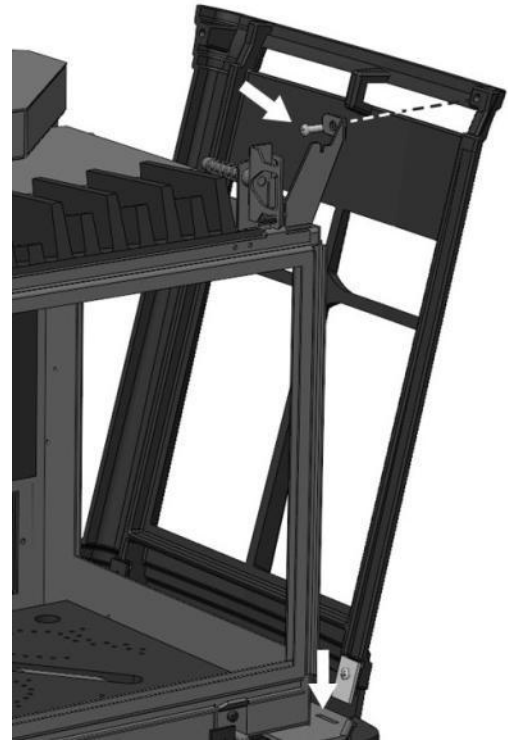

Figure 32 - Side Panel Mounting Detail
3. To dismount the side panels, first remove the top and front façade iron. Remove the top mounting machine screws while holding the iron from falling out, and then lift the side iron panel off the stove (See Figure 32 - Side Panel Mounting Detail)